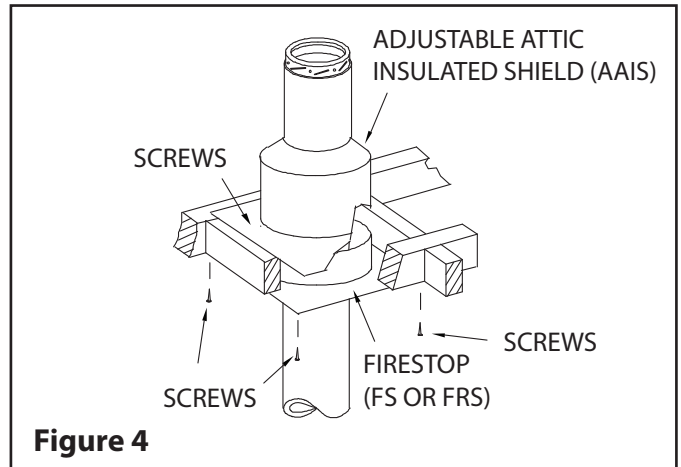

Figure 4
Step 4: At the attic level, install a Firestop (FS or FRS) from below and an Adjustable Attic Insulated Shield (AAIS) from above. See Figure 4.